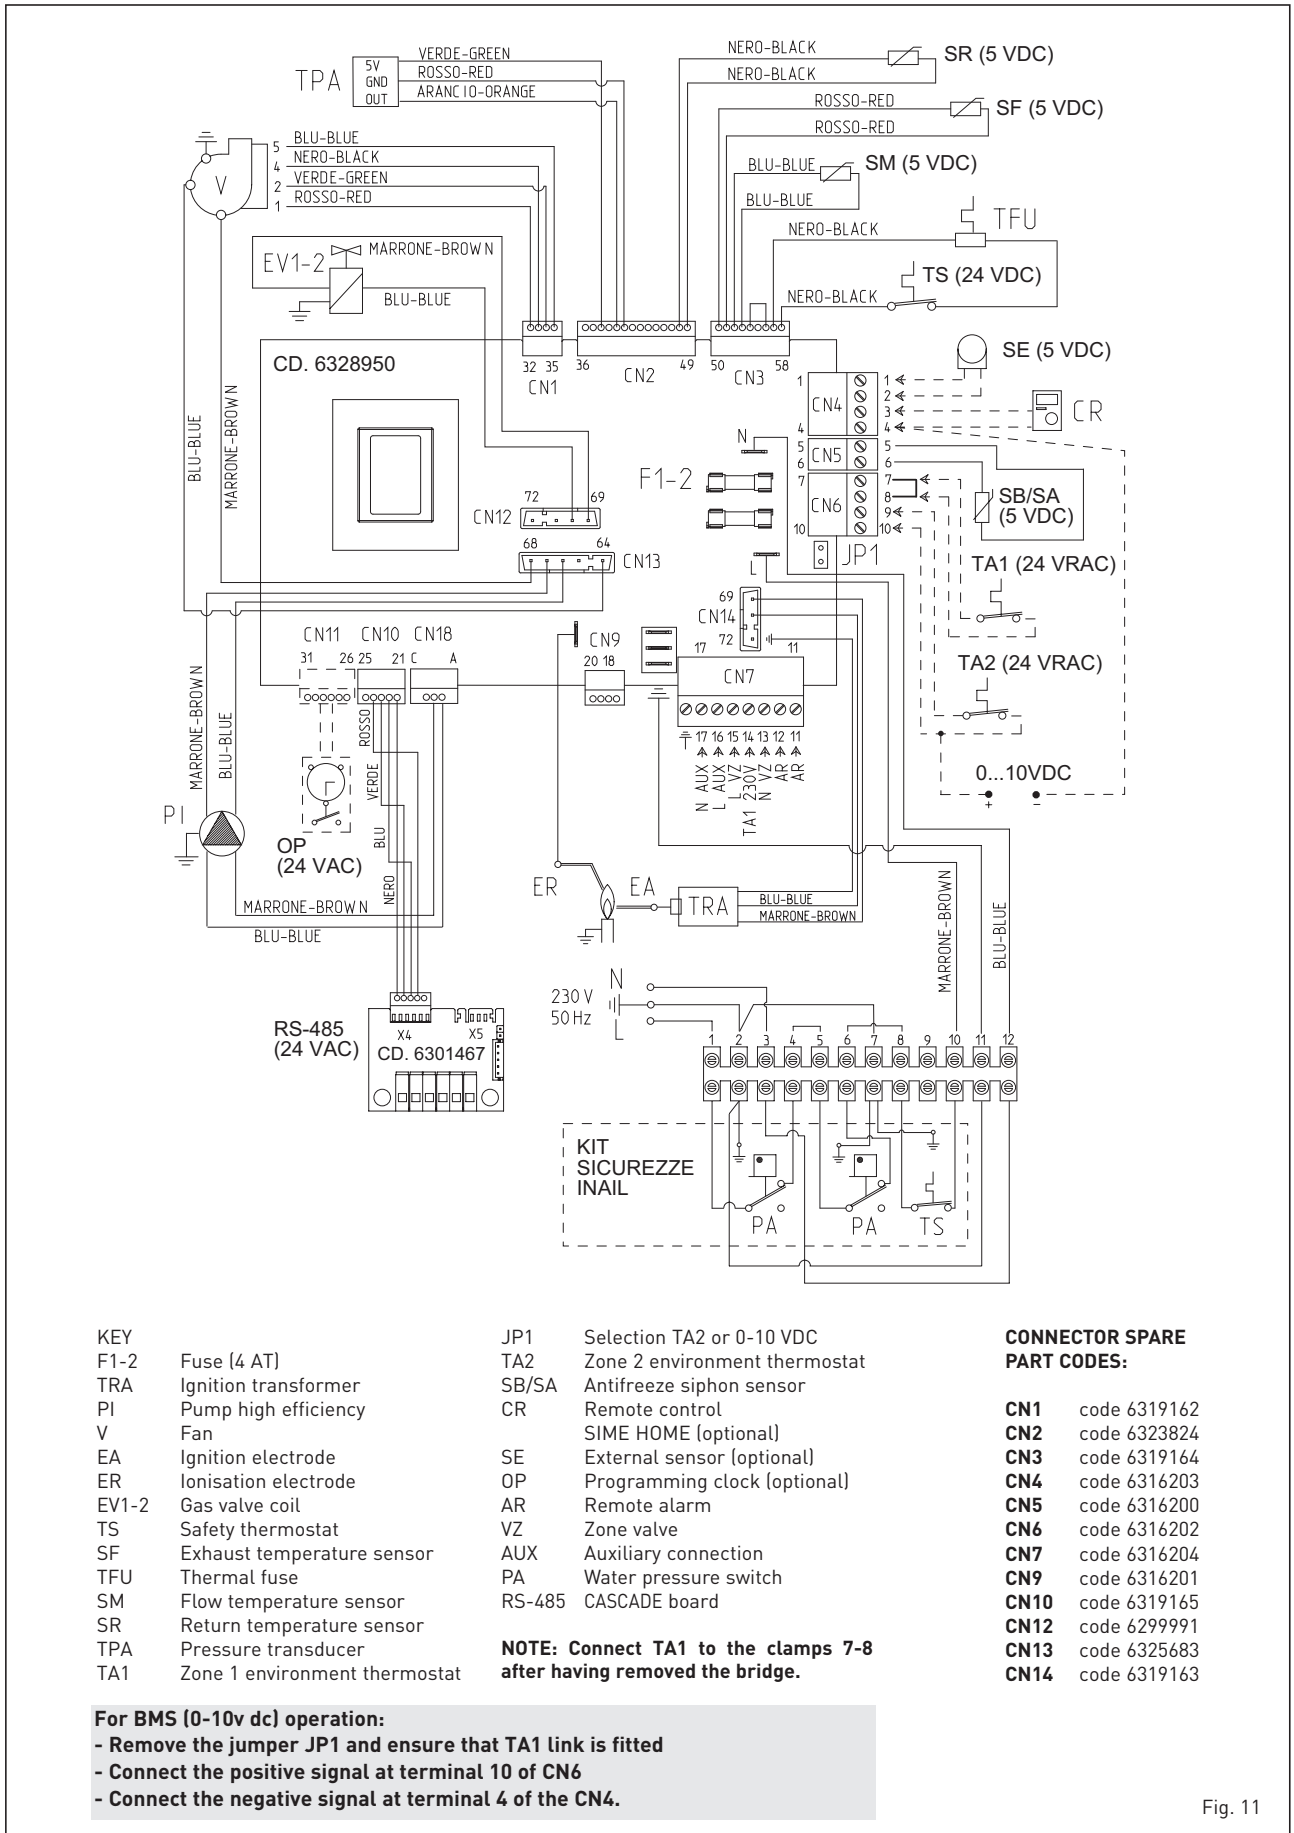

Fig. 11
2.9.1 Wiring diagram single generator (fig. 11)
The heating demand can be controlled by a thermostat and/or timer (TA) connected to CN6 terminals 7-8 (see fig 11), after having removed the existing bridge. The control being used must be of a class conforming to the standard EN 607301 (clean electrical contact).
The cascade of generators can be controlled by a BMS signal, and should be connected as shown in fig 11.